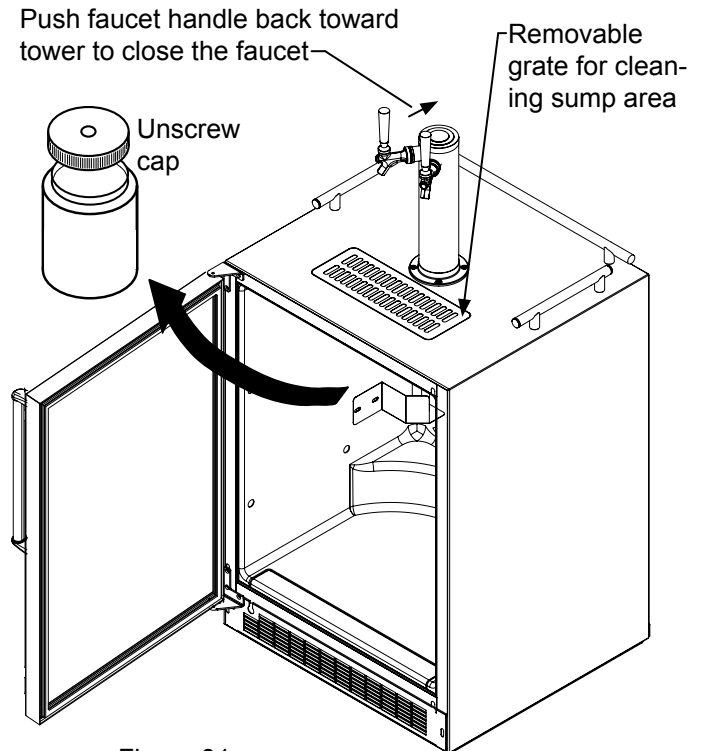

Figure 31
2. Be sure the faucet handle is closed on the tower (see Figure 31).
On a **free standing kegerator** remove the grate from in front of the tower, clean with soap and water and dry before reinstalling. Clean the sump area with soapy water and dry. (See figure 31).
Turn off the gas supply with the shutoff valve under the regulator (see Figure 31) and open the faucet to relieve the pressure. To remove the faucet from the tower use the spanner wrench provided. Place the pin on the wrench into the hole on the faucet collar and turn clockwise \odot to remove the faucet. (See Figure 35).